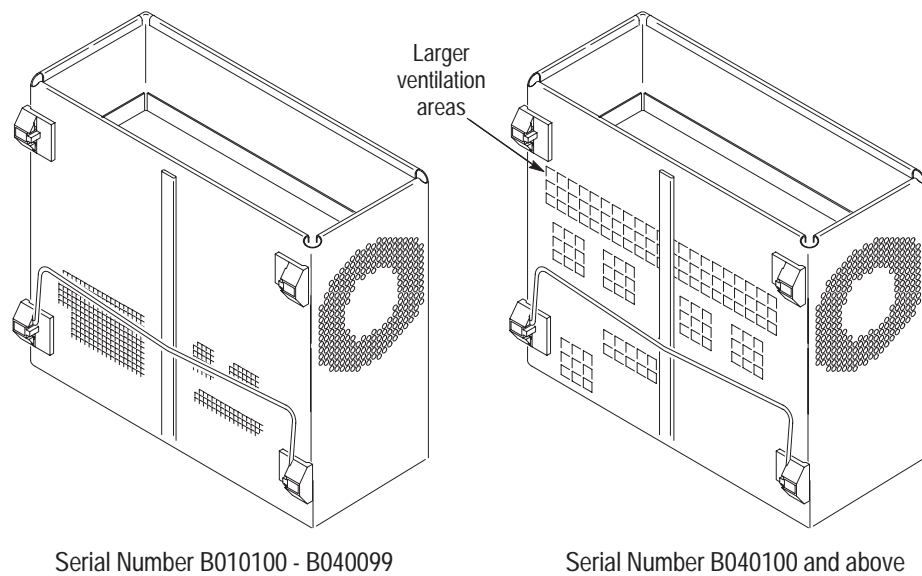

Figure 6–6: Cabinet identification
3. *Remove the knob(s):* Grasp any knob you want to remove and pull it straight out from the front panel slightly to create some clearance between the base of the knob and the front panel. Insert the tweezers between the knob and front panel and use them to remove the knob. See Figure 6–4.
CAUTION. To avoid excessive heat retention and circuit damage in instruments with serial number B040100 and above, use the proper cabinet. If you have several instruments apart for servicing, the proper cabinet for instruments with serial number B040100 and above can be identified by the larger ventilation areas, as shown in Figure 6–6.